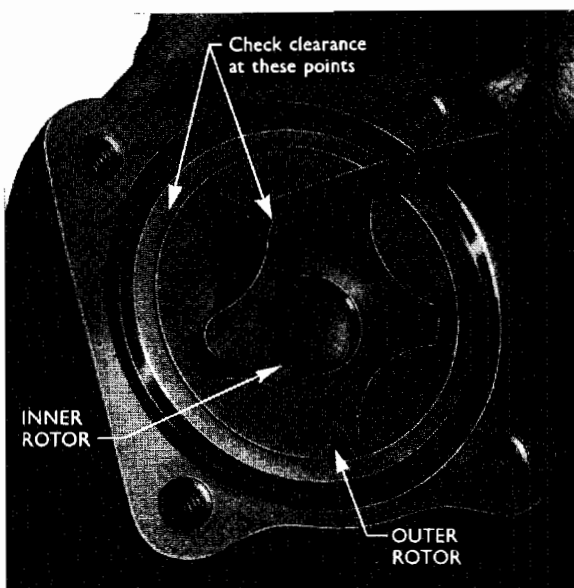

Fig. 5
3. Check the clearance between the lobes of the inner and outer rotors. This should be checked in two positions as shown in Figs. 5 and 6, and must not exceed 0.006 in. (0.152 mm.). Check the clearance between the outer rotor and the housing, this should not exceed 0.0075 in. (0.19 mm.).